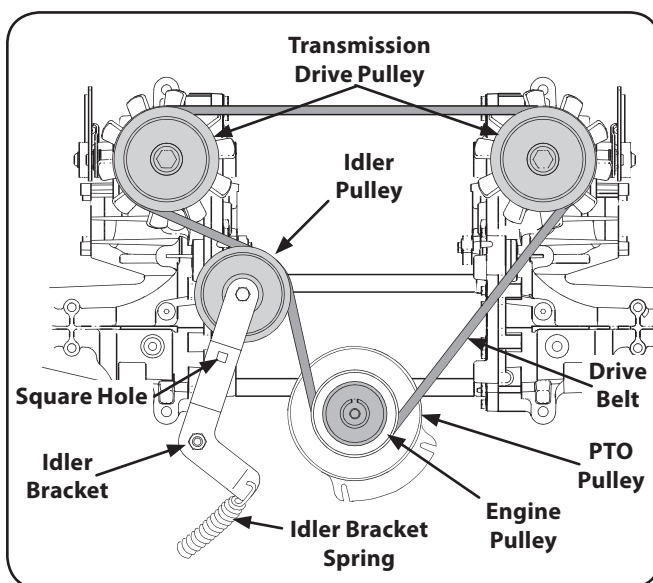

Figure 7-8
- From beneath the rear of the tractor, insert a $\frac{3}{8}$ " drive ratchet into the square hole of the drive idler bracket. See Fig. 7-8.